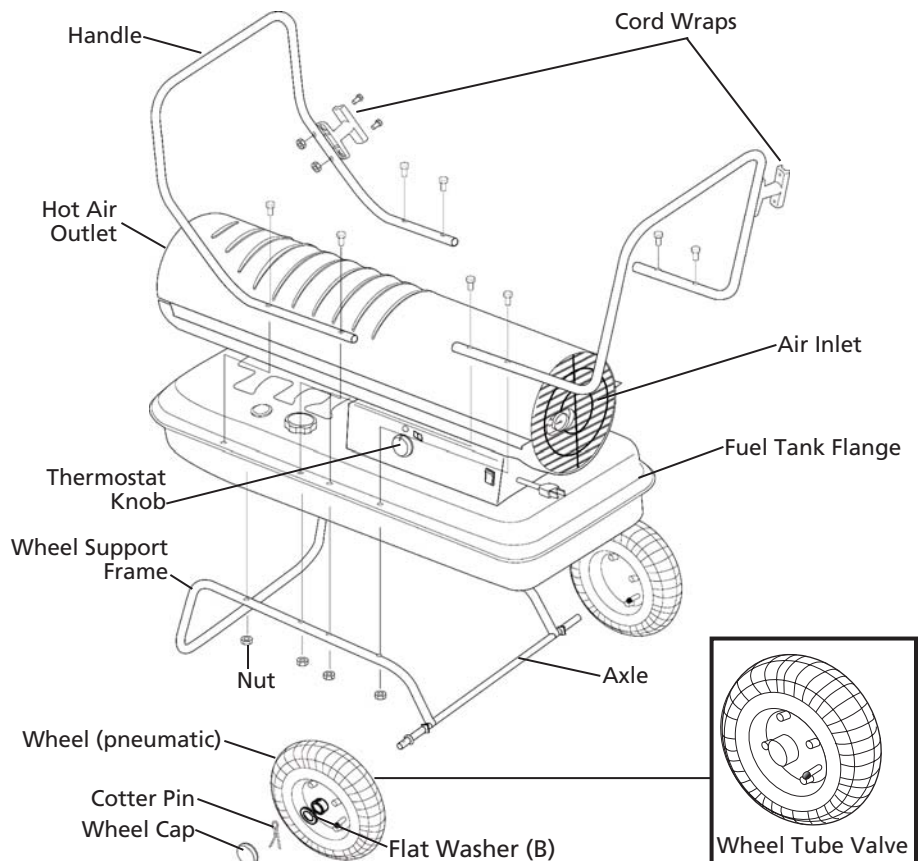

Figure 8 – Models 3VE50B, 3VE51B and 3VE52B Assembly
1. Slide axle through wheel support frame. Install wheels on axle, pointing extended hub of wheel toward wheel support frame (See Figure 8).
4. Position handle on top of fuel tank flange. Insert screws through handles, fuel tank flange and wheel support frames as shown in Figure 8, and attach nuts finger tight after each screw is inserted.